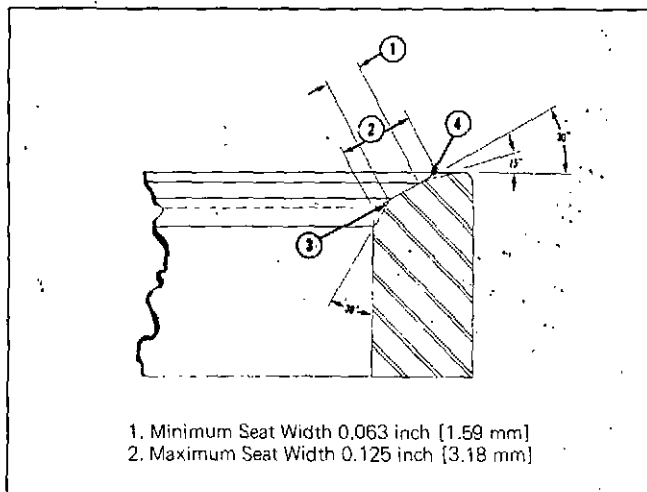

Fig. 2-8 (N10228). Cross-Section Of The Valve Seat Insert.
2. Check the seat area width (2), Fig. 2-8. If the width is more than 0.125 inch [3.18 mm] and cannot be cut narrower, replace the insert.